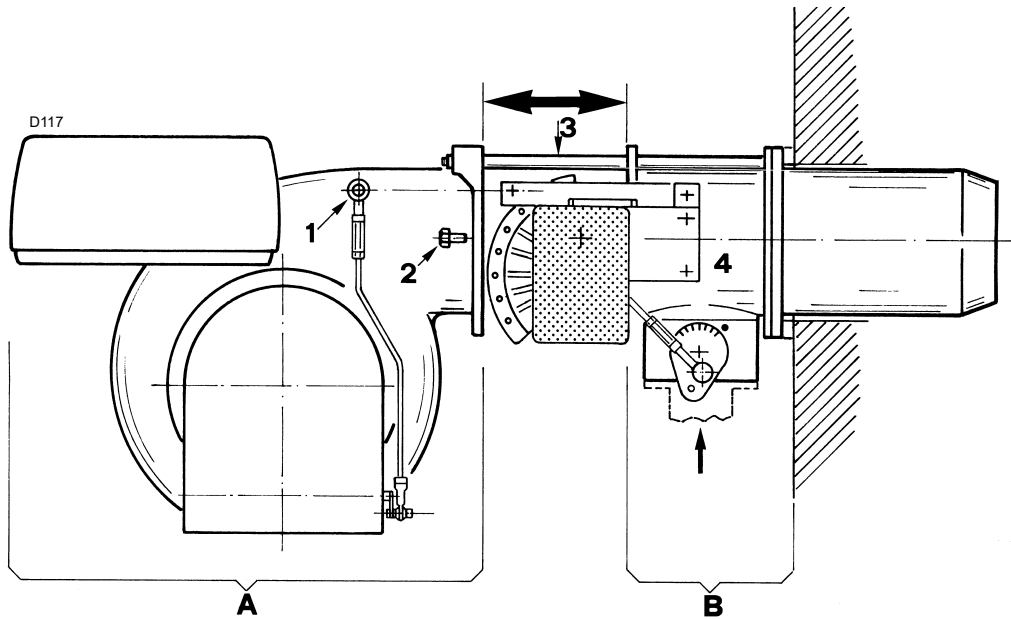

Fig. 33
- Disengage the articulated coupling 1)(Fig. 33) of the air damper control lever;